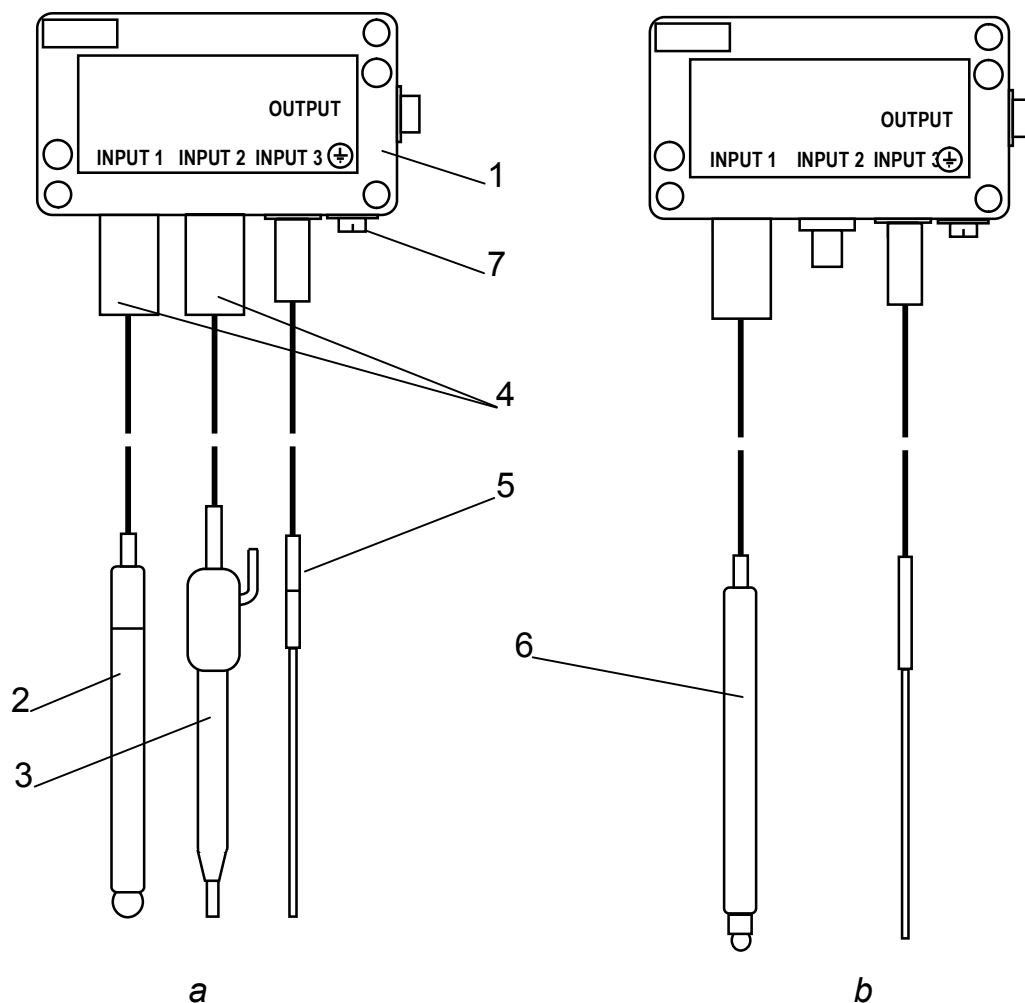

Figure 1.4 – PU-902 and PU-902A probe units
1.5.3.2.1 *PU-902 probe unit* (Fig.1.4 a) and *PU-902A probe unit* (Fig.1.4 b) are comprised of:
Amplifier unit 1 has a sealed aluminum housing that features the connectors as shown in Fig.1.4.